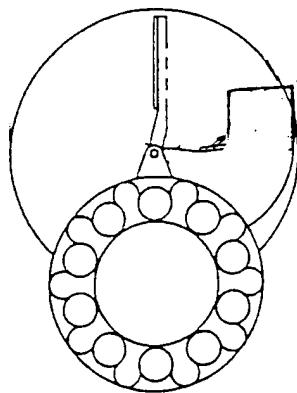

Fig. 13A
If it is straight out in front, as shown in (see **Fig. 13A**) go to step #6.
2. We now need to position the arm in the straight out 12:00 position, as in Fig. 13A. In order to do this we must first position the gearbox cocking stud in the 12:00 position to use it as a "break" to cushion the release of the throwing arm through its "Decocking" sequence. Follow the instructions below.